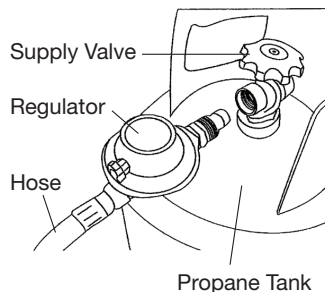

Figure 5
1. To connect hose and regulator assembly, rotate fitting on hose/regulator **COUNTERCLOCKWISE** into threads on tank valve (see Figure 5 and 6). Be sure to tighten firmly.